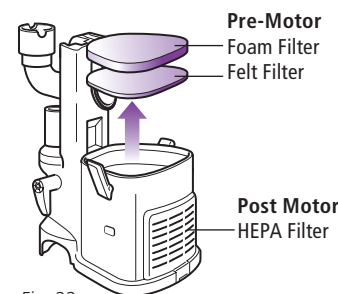

Fig. 22
- 2 Pull the 2 filters out from the top of the motor base. (Fig. 22)